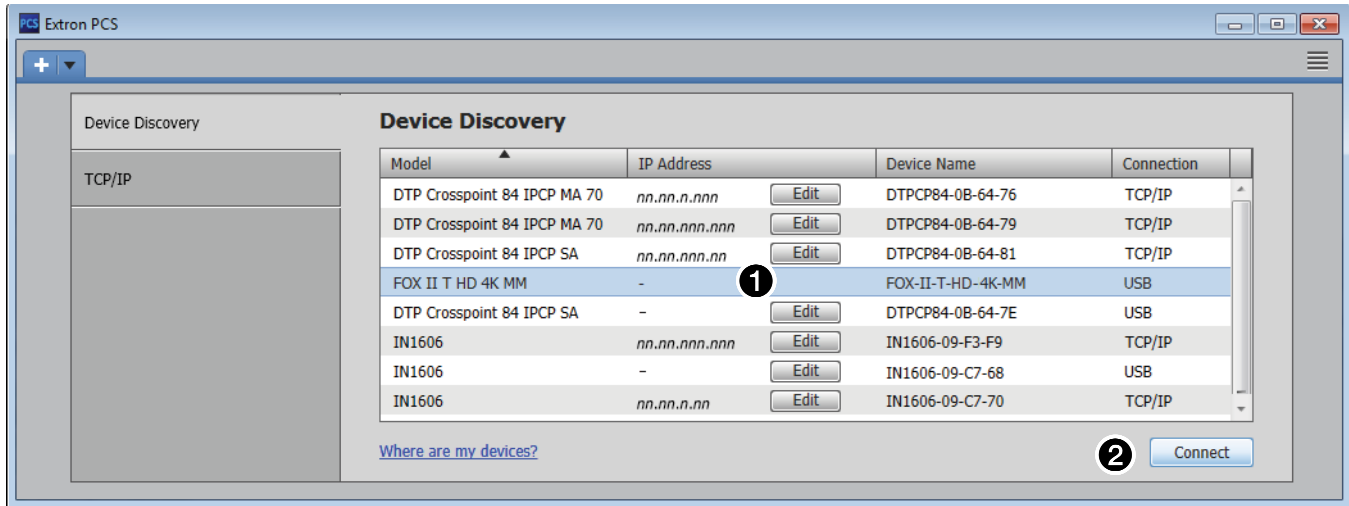

Figure 13. Device Discovery Screen
The Product Configuration Software opens to the **Device Discovery** window (see figure 13).
2. Select (click) your FOX II T HD 4K and the USB port (see figure 13, ①).